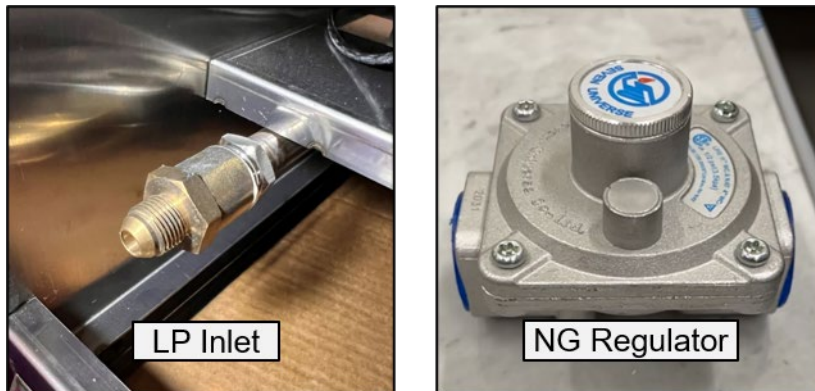

Figure 22 Gas Inlets
- LP gas inlet – straight brass fitting (Figure 22 left), 1/2" opening on one side, 3/8" on the other
- NG gas inlet – regulator with 1/2" opening on each side (Figure 22 right); an arrow or the words IN and OUT should indicate the gas flow direction - If regulator is installed the wrong way it will not work and gas won't flow